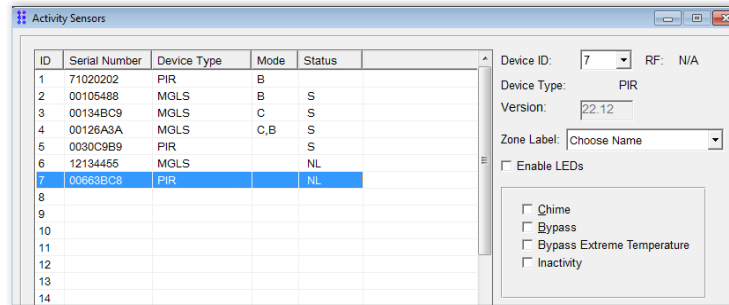

Figure 53: Select Activity Sensor for Update
2. Modify the values of the activity sensor attributes requiring update. See the attributes to the right of the **Activity Sensor** table as in Figure 53 above.